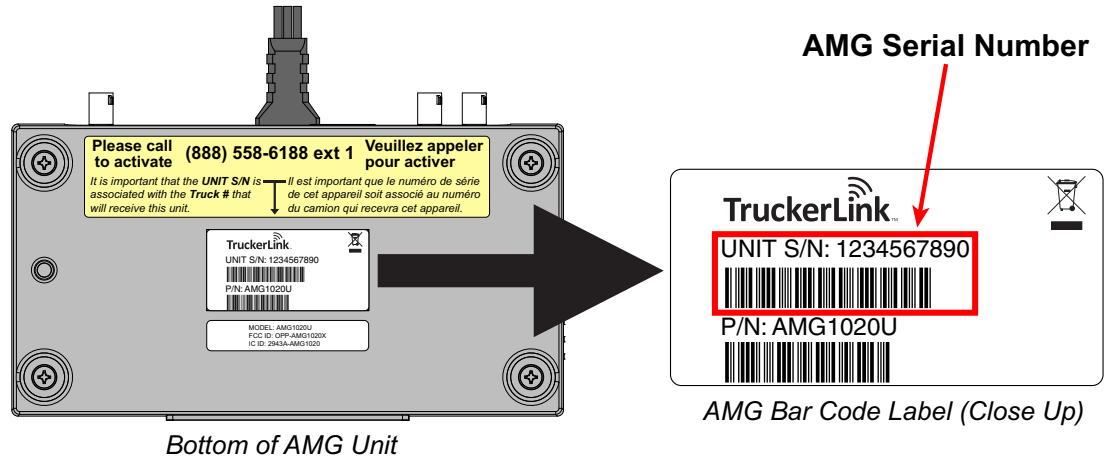

Figure 2: AMG Serial Number
- **AMG Serial Number** – see Figure 2 for location of this information